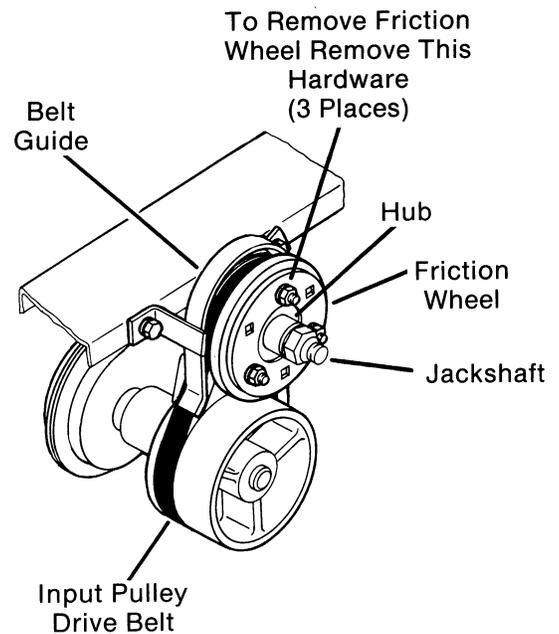

FIG. 22
- B. Remove friction wheel by removing three carriage bolts and nuts retaining wheel to hub assembly. (Fig. 22)
- C. Remove belt guide by removing two cap-screws. (Fig. 22)